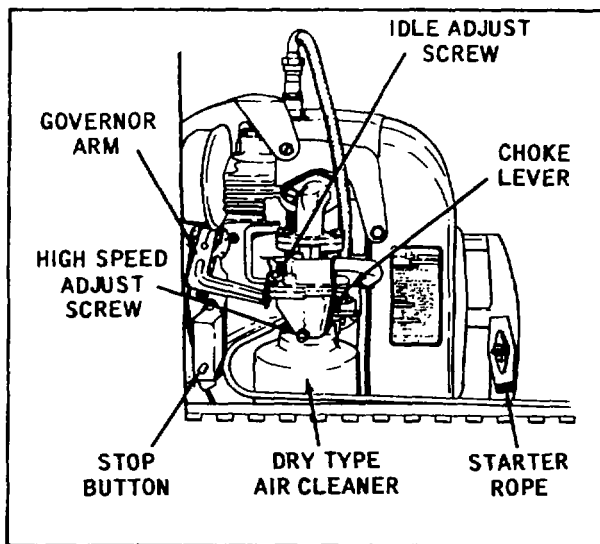

Figure 2-3. Engine Controls and Adjustments
c. Close the system drain valve located adjacent to the filter and separator assembly (see Figure 2-3).
f. Set the engine choke lever (Figure 2-3) as required. Little or no choking will be needed when the engine is warm. Experience will teach the degree of choking necessary under varying conditions of temperature, fuel grade, etc. Adjust the engine throttle to the approximate half open position.
g. Pull the starter rope (Figure 2-3) with a quick, steady motion in a straight line through the guides. If a second pull is necessary, set the choke lever at the original position. When the engine starts, slowly return the choke lever to the fully open position. After engine warm-up, adjust the throttle to the fully open position.
m. When the using device is charged to the required pressure, set the engine throttle to the idle position. Press the engine stop button (see Figure 2-3) to stop the engine.